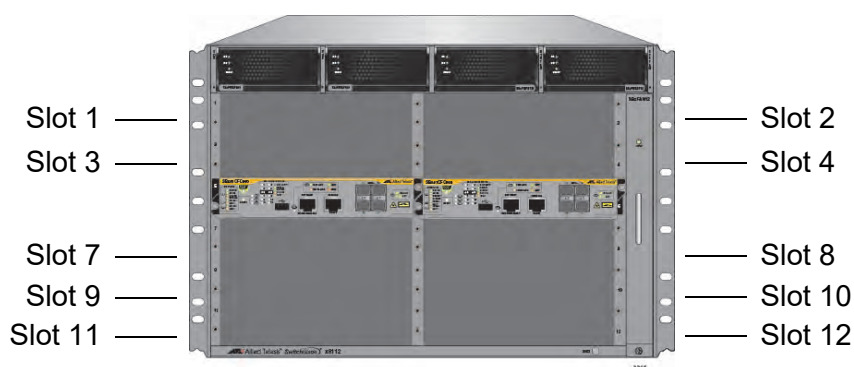

Figure 90. Slots 1 to 4 and 7 to 12 for the Ethernet Line Cards
1. Choose a slot in the chassis for the Ethernet line card. The Ethernet line cards can be installed in slots 1 to 4 and 7 to 12. The slots are shown in Figure 90.